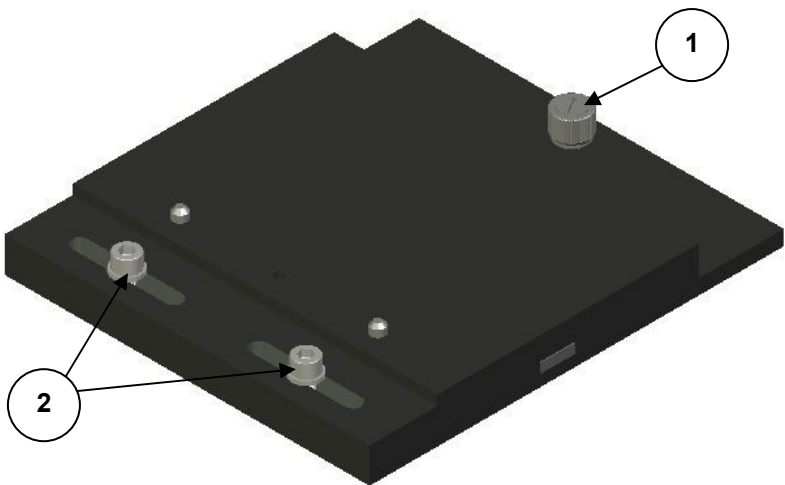

Figure 1. Benchmark Baseplate P/N 549-395.
As mentioned in Section 2), the Benchmark™ baseplate P/N 549-395 as supplied with the **customers** Golden Gate Imaging ATR Accessory is used for correct installation of both the Alignment Baseplate and the Golden Gate™ Imaging ATR Accessory. (See Figure 1).
The Alignment baseplate locates into the Varian LS optical bench sample compartment on the special Benchmark™ baseplate supplied for mounting of the Golden Gate Imaging ATR accessory. (See Figure 1). The Alignment baseplate attaches to the Benchmark™ baseplate by the single thumbscrew fixing (3). It is a push down and clockwise twist of the thumbscrew to fix.
- 2) Keeping the Alignment baseplate with the small aperture plate centrally in position, you can slide the Benchmark™ baseplate from side to side (left or right) via the slot locations through the fixing screws (2) – see Figure 1. The screws (2) should be loose to allow the plate to slide from side to side. Check that the best focus 'hot spot' is somewhere near the central positioning of the baseplate assembly. (i.e. when the fixing screws (2) are central in their slots).
- 3) Ensure that the 'hot spot' of the IR source is directed to the centre of the Toroidal mirror on the output side of the sample compartment by using the small Allen key supplied. Remove the aperture plate (4) and hold the Allen key vertically, immediately in front and to the center of the Toroidal mirror. Check that the shadow cast by the Allen key is centered in the image from the detector. Now repeat this procedure but hold the Allen key horizontally to check for centering of the image in this orientation.